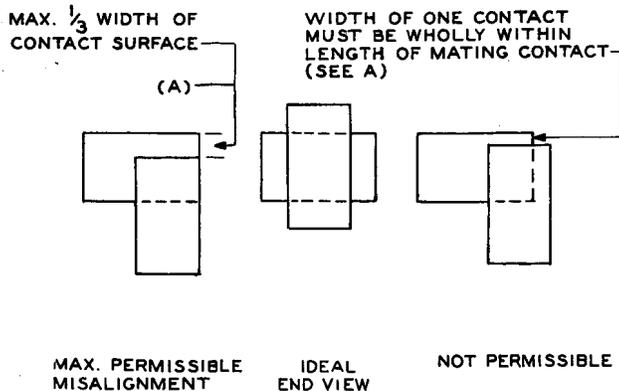

Fig. 4—Alignment of Heavy Contacts—Plan View of Contact Surfaces
3.05 Contact Alignment: Fig. 4, (A)—The contact alignment shall be within the limits indicated in Fig. 4.